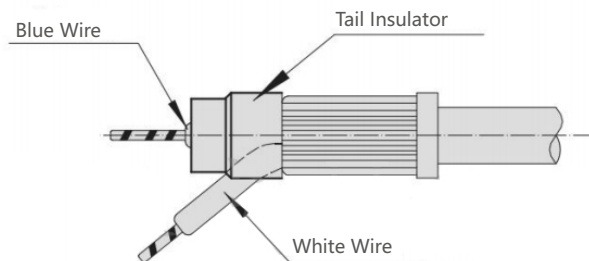

Figure 3.3
③As shown in Figure 3.3, bend the white wire outward and place it into the slot of the insulator. Pass the blue wire through the insulator. The tail of the insulator must be pressed against the shield layer.